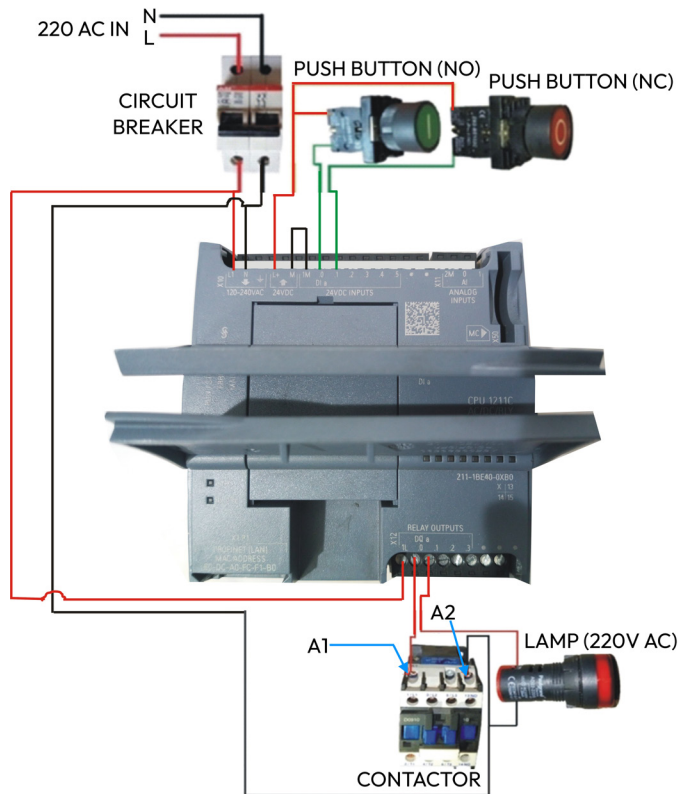

Figure 7.26 – Pictorial diagram of the Siemens S7-1200 PLC wiring (CPU 1211C AC/DC/Relay)
In *Figure 7.26*, a circuit breaker connects to the AC supply (220V AC) and is used to supply AC power to the PLC at the 120-220V input of the PLC. The PLC produces a 24VDC at the 24VDC output of the PLC. The 24VDC output is used to send a signal to the input of the PLC. The negative (M) of the 24VDC output of the PLC is connected to the common (M) of the input module part of the PLC (which means the input module part of the PLC is sinking). The positive (L+) of the 24VDC output of the PLC is connected to one terminal of the push button (NO), while the other terminal is connected to the first input point of the PLC (I0.0). Similarly, the positive (L+) of the 24VDC output is also connected to one terminal of the push button (NC), while the other terminal is connected to the second input point on the PLC (I0.1). Live (L) from the circuit breaker is connected to the common (L) of the output module part of the PLC. One terminal (A1) of the contactor is connected to the first output point (Q0.0) of the PLC, while the other terminal of the contactor (A2) is connected to neutral (N) on the breaker. Similarly, one terminal of the lamp is connected to the second output point (Q0.1) of the PLC, while the other terminal of the lamp is connected to neutral (N) on the breaker.